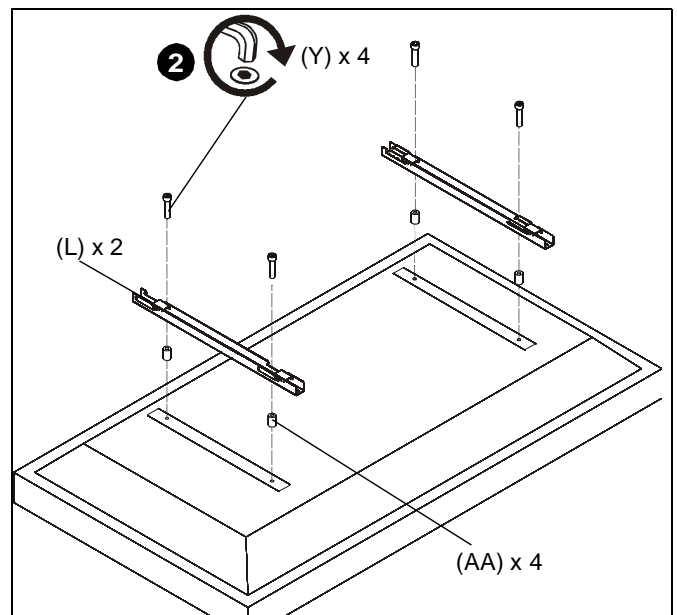

Figure 7
- Use M16 x 90mm socket head cap screws (Y) and spacers (AA) to connect interface brackets (L) to back of display. (See Figure 7)